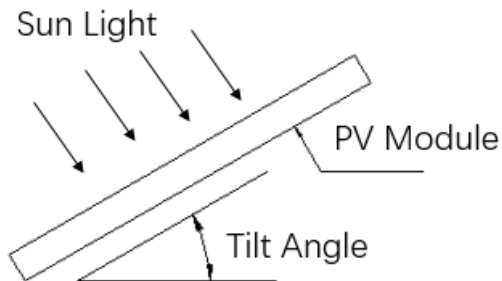

Figure 1: Schematic diagram of tilt angle
- The tilt angle of the modules is measured between the surface of modules and a horizontal grounding face, as shown in figure 1. The modules generate maximum power output when it faces the sun directly.